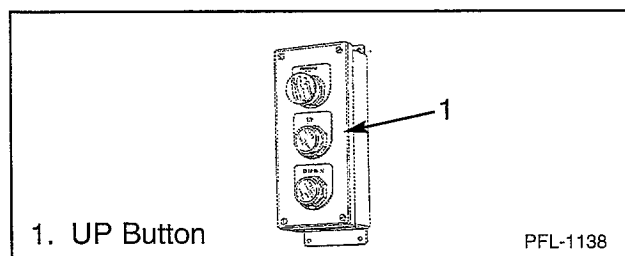
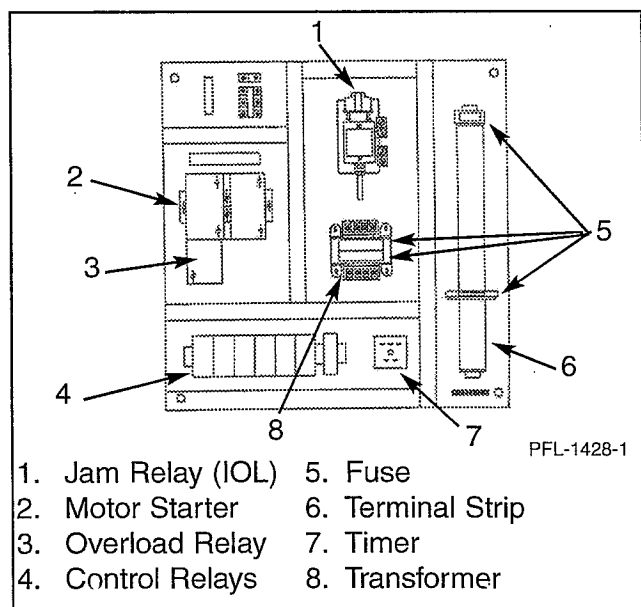

Figure 15
Figure 16
1. When the UP button at the upper push button station is pressed (Figure 15), the control circuit to the motor starter (motor contactor) is completed. The coil of the motor starter (Figure 16) magnetically closes the high voltage contacts completing the power circuit to the motor.